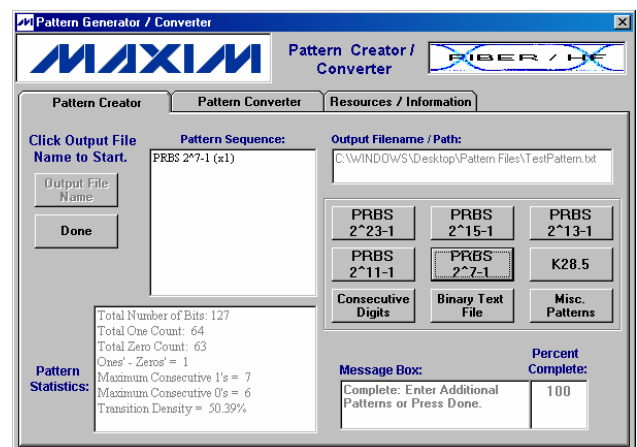

Figure 10. Creator Example Step #4
4. The first sequence of the pattern is now shown in the **Pattern Sequence** box and the corresponding statistics of the pattern to this point are shown in the **Pattern Statistics** textbox (Figure 10).